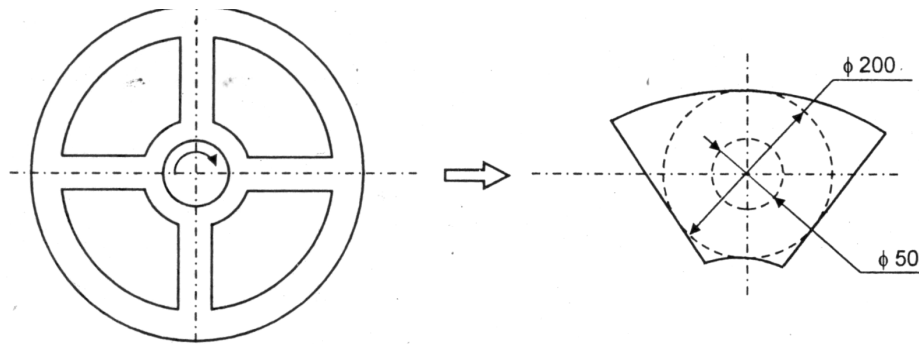

Fig.1.
- (b) A hydrostatic thrust bearing consists of four pads as shown in Fig. 1. Each pad can be approximated as a circular area of outer and inner diameters of 200 mm and 50 mm respectively as shown in Fig.1. The total thrust load on bearing is 300 kN and film thickness is 0.1 mm. The absolute viscosity of the lubricating oil is 47.76×10^{-9} N-s/mm². Calculate supply pressure and flow rate. **07**